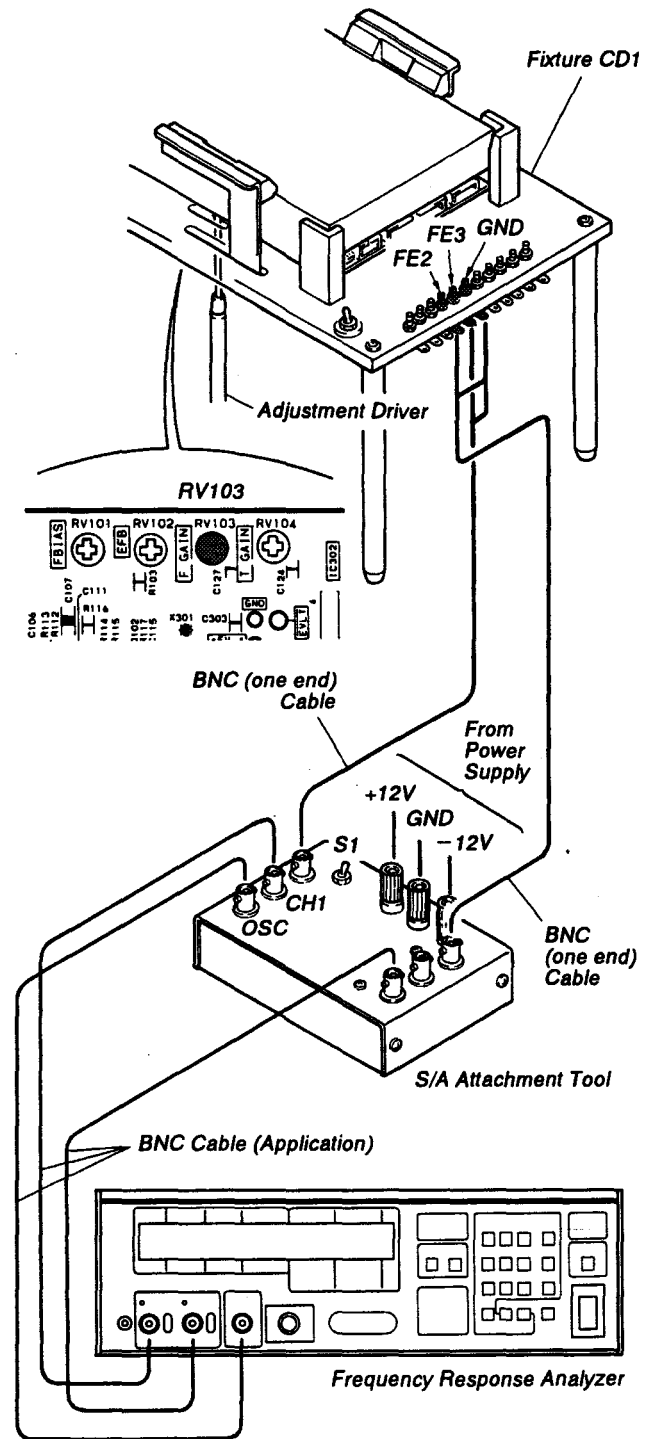

Fig. 5-1-4 Focus Servo Loop Gain Adjustment
- a. Connect Frequency Response analyzer and S/A Attachment Tool to PS/2 system. (Refer to Fig. 5-1-4)